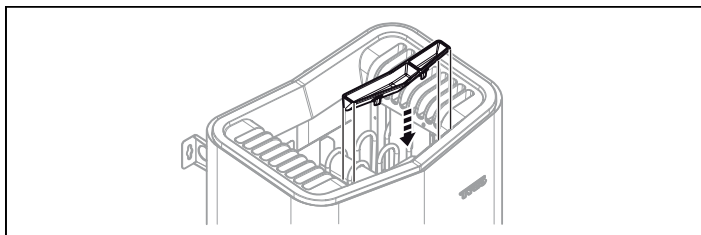

Figure 11: Fitting the fragrance holder/air humidifier
10. Fit herb bowl/air humidifier (see Fig. 11).